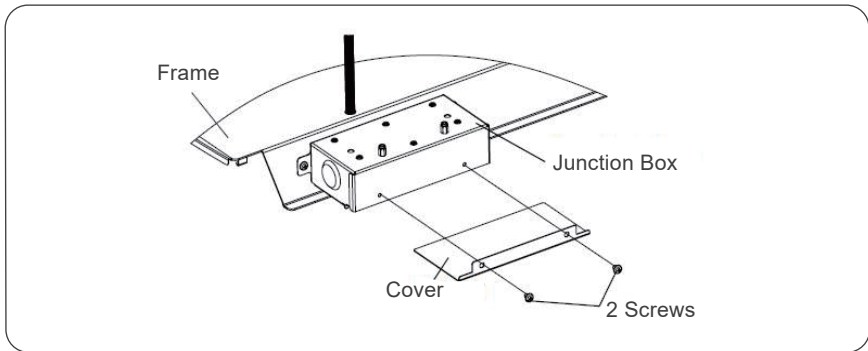

Figure 12
- Remove the 2 screws of the junction box cover. Take the power cord and push it into the box through the strain relief clamp that is provided (see Figure 12).